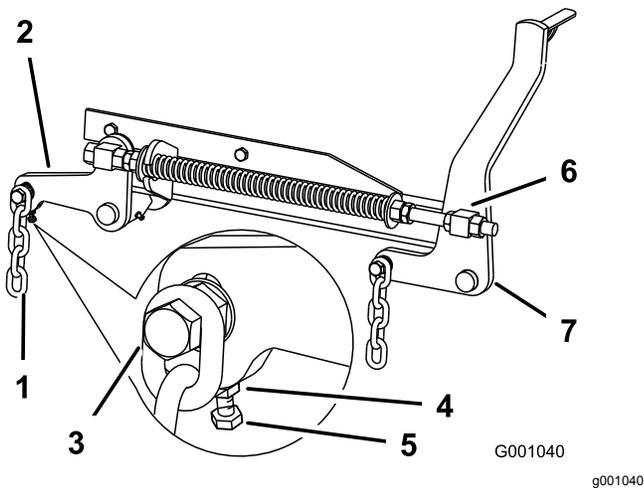

Figure 112
7. If the measurements at positions **B** or **C** are not correct, loosen the bolt attaching the rear chain to the rear-support arm (Figure 112).
8. Loosen the jam nut under the rear-support arm and adjust the adjustment bolt to get a measurement of 80 to 83 mm (3-1/8 to 3-1/4 inches); refer to Figure 112.
7. Loosen the front swivel jam nuts, at the front of the right and left swivels, approximately 13 mm (1/2 inch) (Figure 112).
8. Adjust the lift nuts on both the left and the right side of the machine to achieve 6 to 10 mm (1/4 to 3/8 inch) lower in front at **A** than in the rear at **B** (Figure 112).